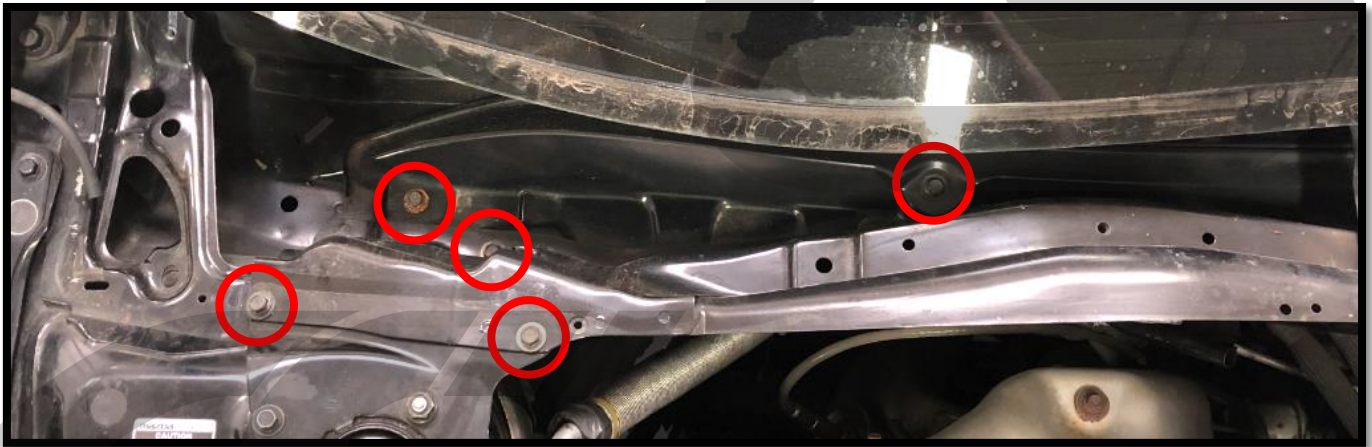
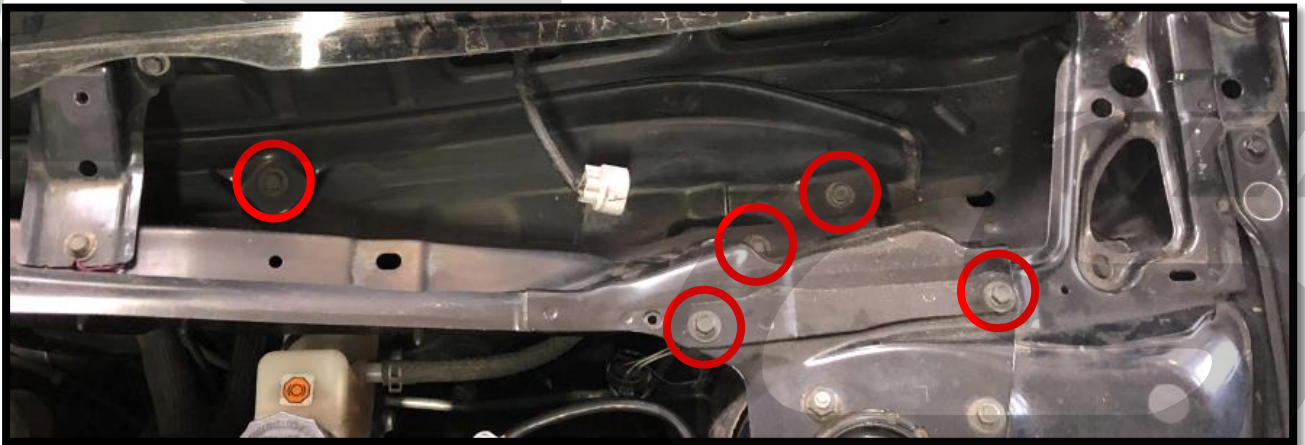

Figure 1g
Figure 1h
- o) Remove the ten 10mm bolts that hold the metal portion of the cowl to the vehicle. Bolts shown circled in red in **Figure 1g** and **Figure 1h**. Passenger side of the cowl shown in **Figure 1g**, driver side in **Figure 1h**.